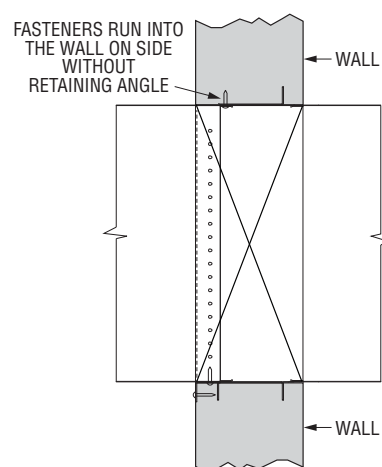

Figure 2: Fastening of damper on the side without retaining angles
A) In the case where the damper sits directly on a concrete floor slab, the bottom retaining angle is not required if the damper sleeve is fastened directly to the slab using 1/4" (6) masonry anchors 1 1/2" (38) minimum length, with minimum 1 1/4" (32) penetration into the floor. All fasteners to be on a maximum of 12" (305) o.c. with a minimum of 2 fasteners.
- On the top side of the damper sleeve fasteners shall be run up through the sleeve into the steel stud or block wall. For steel stud walls fasteners shall be #10 x 1 1/2" (38) sheet metal screws. See **Figure 2**. For masonry or block walls fasteners shall be 1/4" x 1 1/2" (6 x 38) self-tapping concrete screws.
- Fasteners shall be no more than 2" (51) from the corners and then a maximum of every 3" (76) on center.